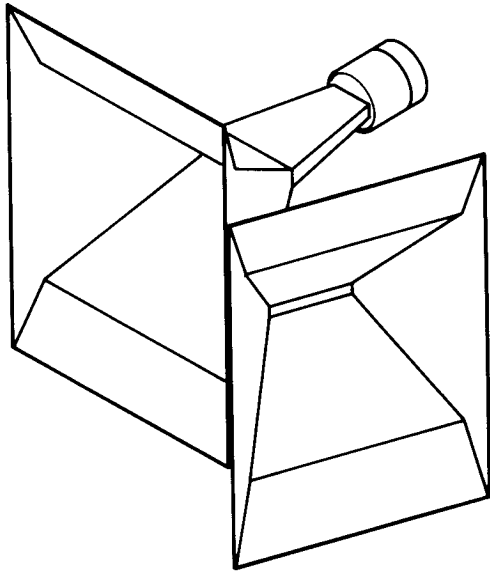

Figure 7A: Recommended Method of Doubling the Vertical Coverage of a Pair of MANTARAY's
4) For doubling the vertical coverage angle of a pair of MANTARAY's, we recommend the stacking/splaying method illustrated in Figure 7A and 7B. The polar patterns for this array are as smooth as those shown for the horizontal pairs in Figure 6.